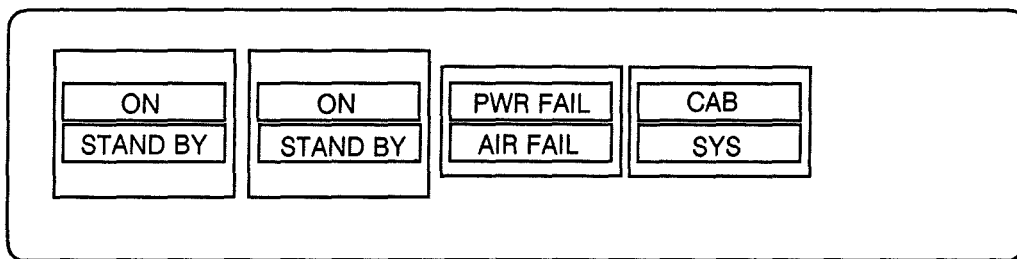

Figure 1-4. IIO Cabinet Control Panel
Figure 1-4 represents the V 500 IIO cabinet control panel.
1. Locate the control panel in the upperright corner of the IIO cabinet (refer to Figure 1-4).